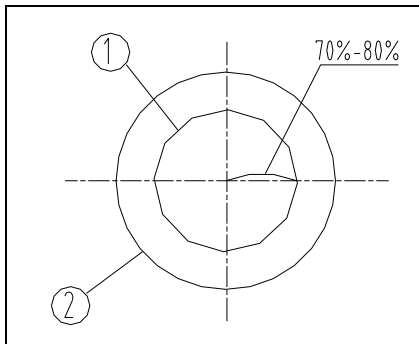

Fig. 18
2. As the contrast is usually low, rotate the diaphragm adjust ring (3) to make the arrowhead pointed to the related magnification position on condenser base (4), namely, to adjust the N.A. of illumination to 70%-80% of the N.A. of objective. The eyepiece can be taken off when it's necessary to observe from the tube.
Adjust the ring (3) until see the figure as shown in Fig. 18, to adjust the proportion (see Fig. 18&19, (1) is the image of aperture diaphragm, (2) is the edge of objective).